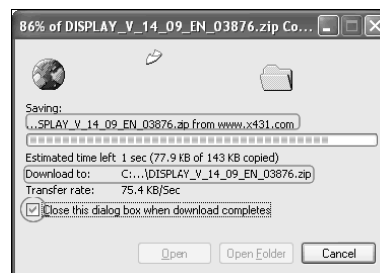

Figure 3-22
a. The window as shown in figure 3-22 will appear notifying you of your downloads progress.